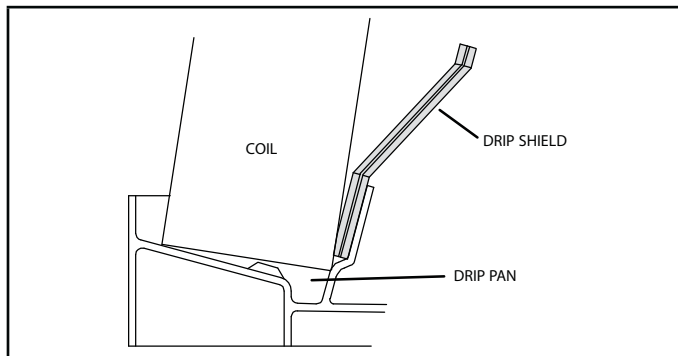

FIGURE 13. Downflow Drip Shields
- 5 - From the underside of the coil, install the downflow drip shield firmly in place as illustrated in figure 13.